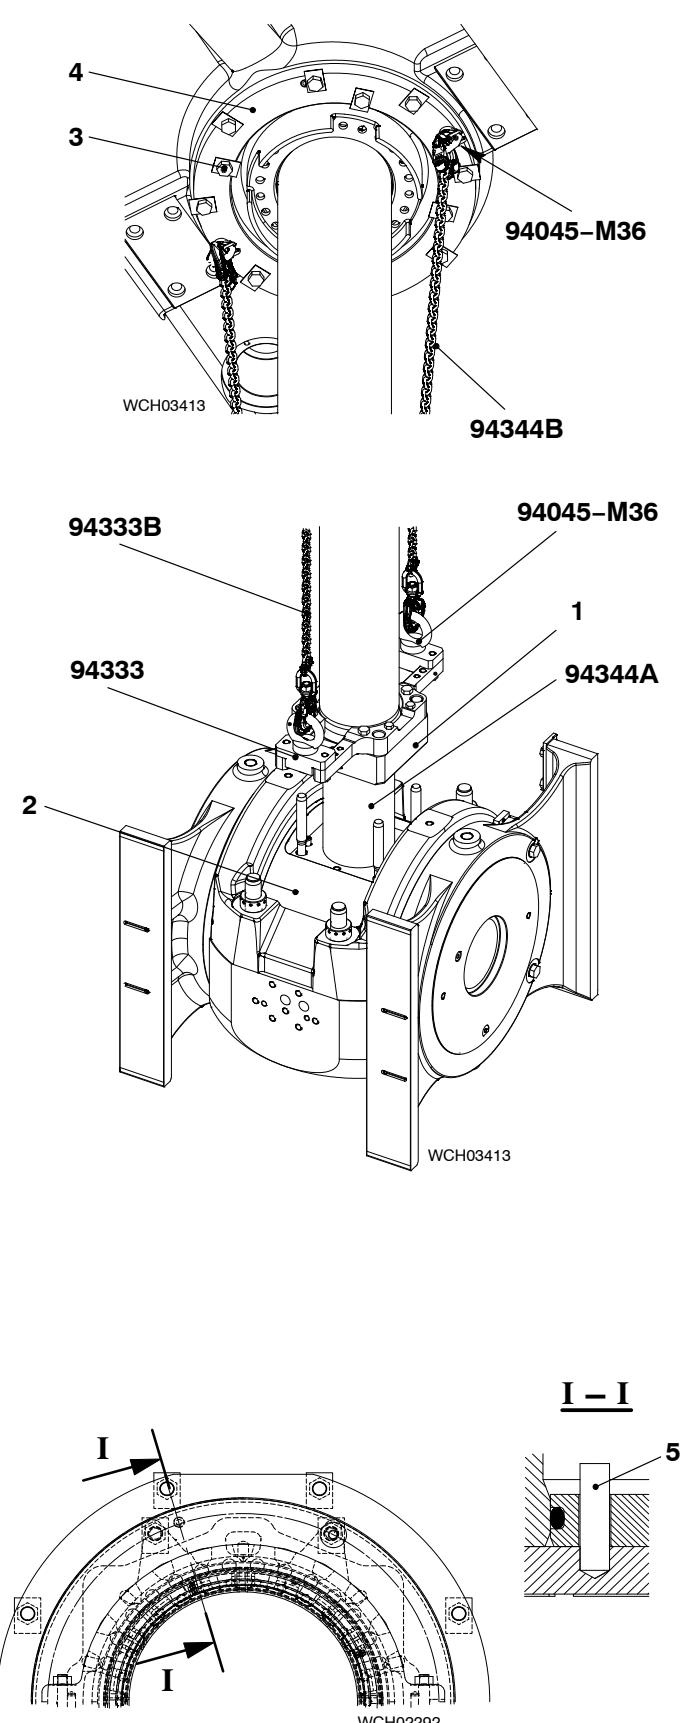

Fig. 14
21) Carefully lower the piston into the cylinder liner (2) until the piston rod foot touches the spacer (94344A).
24) Attach the lifting tool (94333, Fig. 14) to the piston rod foot (1).
25) Attach the two eye bolts (94045-M36) to the support ring (3).